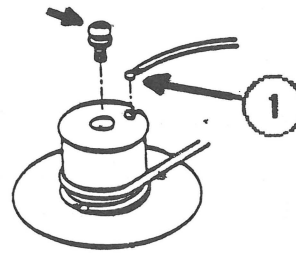

FIGURE 7
9. Insert this end of the wire into the top slot of the motor pulley (see Figure 7, #1).
11. Replace the motor pulley screw (see Figure 7, #2).